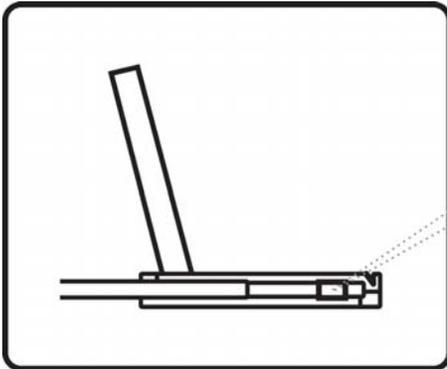

Figure 12
- A black arrow release button is located on the outside of each slide. (shown in **Figure 12**).